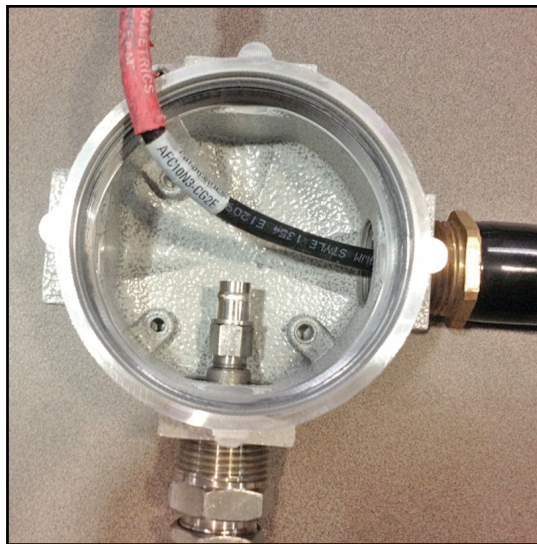

Figure 8: Assembled Transducer and Cable Gland
5. Verify that, with the transducer and the cable gland assembled, the junction box looks like *Figure 8* below: